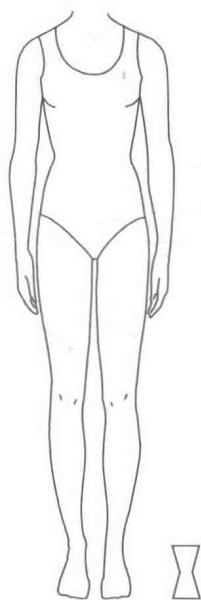

FIGURE 4.31
- The ideal is a balanced figure. Average body weight is balanced evenly between the upper and lower torso (see Figure 4.31).